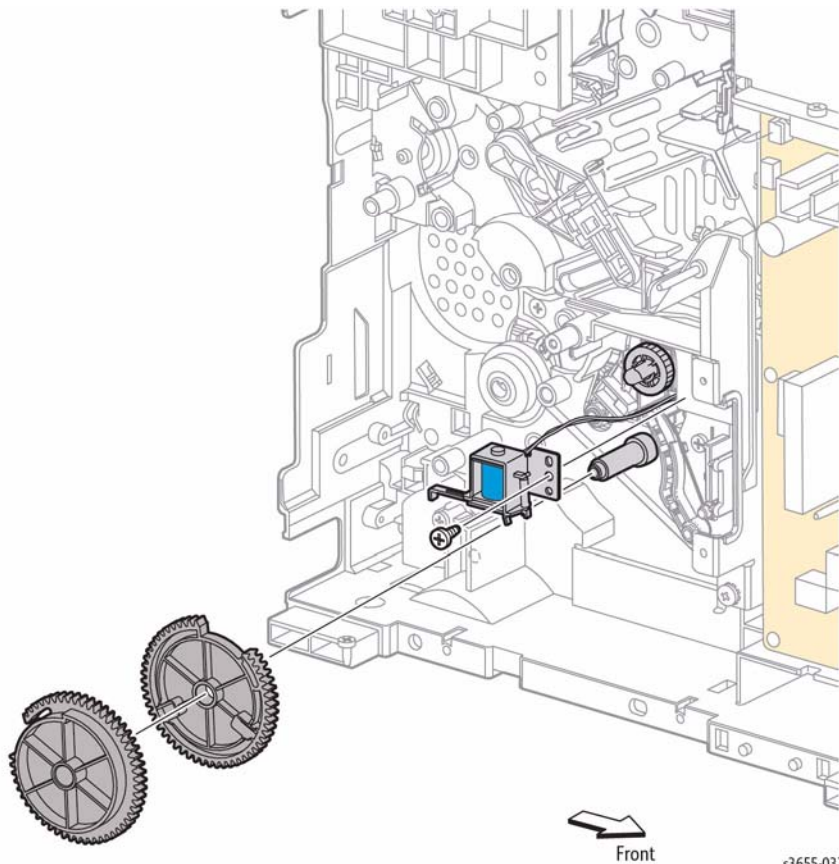

Figure 2 Remove the Feed Gear
17. Refer to Figure 2 to locate and remove 1 screw (silver, tapping, 8mm) to release, but not disconnect, the MSI Feed Solenoid, then remove both Feed Gear segments.